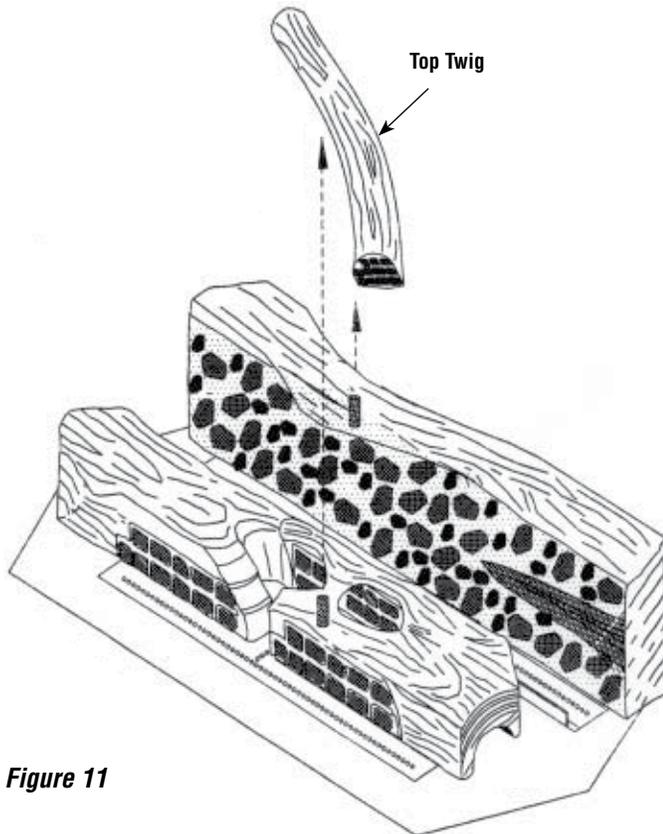

Figure 11
- Position the top twig, with the charred end forward, on the pin in the top of the rear log and the pin in the top of the right front log (see **Figure 11**).